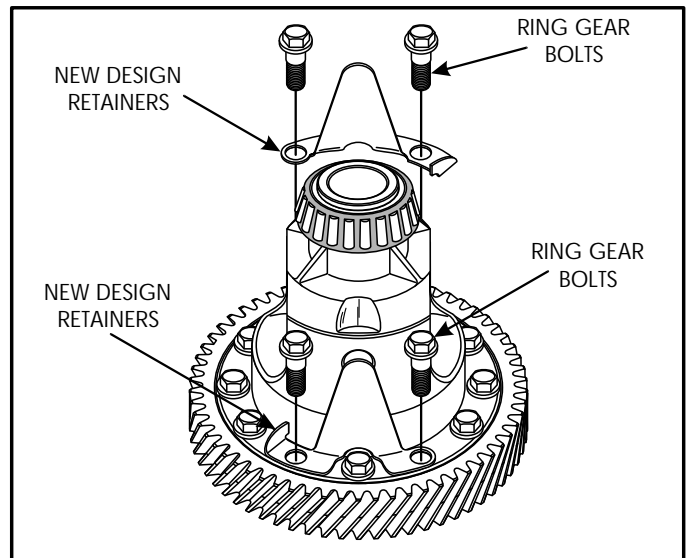

Figure 152
**Note:** Some models may have the new design cross shaft retainers instead of the roll pin, as shown in Figure 152. See the "Update" section in this manual for details.